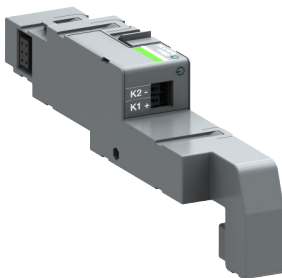

Fig. 5.6 Auxiliary power supply module, type OXE1, is needed when Ekip Signalling, Com and Link -modules are mounted to automatic transfer switch OX_
The Ekip Programming -module is suitable to use with all ZTG(D) 1600-3000 A, 208-480 Vac automatic transfer switches. You can connect the module via the programming port, see Fig. 5.6. The programming port is only compatible for use with Ekip Programming -module.
The Ekip Programming -module draws its power from the PC and connects one side directly to the programming port (see Fig. 5.6) and on the other to the USB port of the PC with the cable supplied.